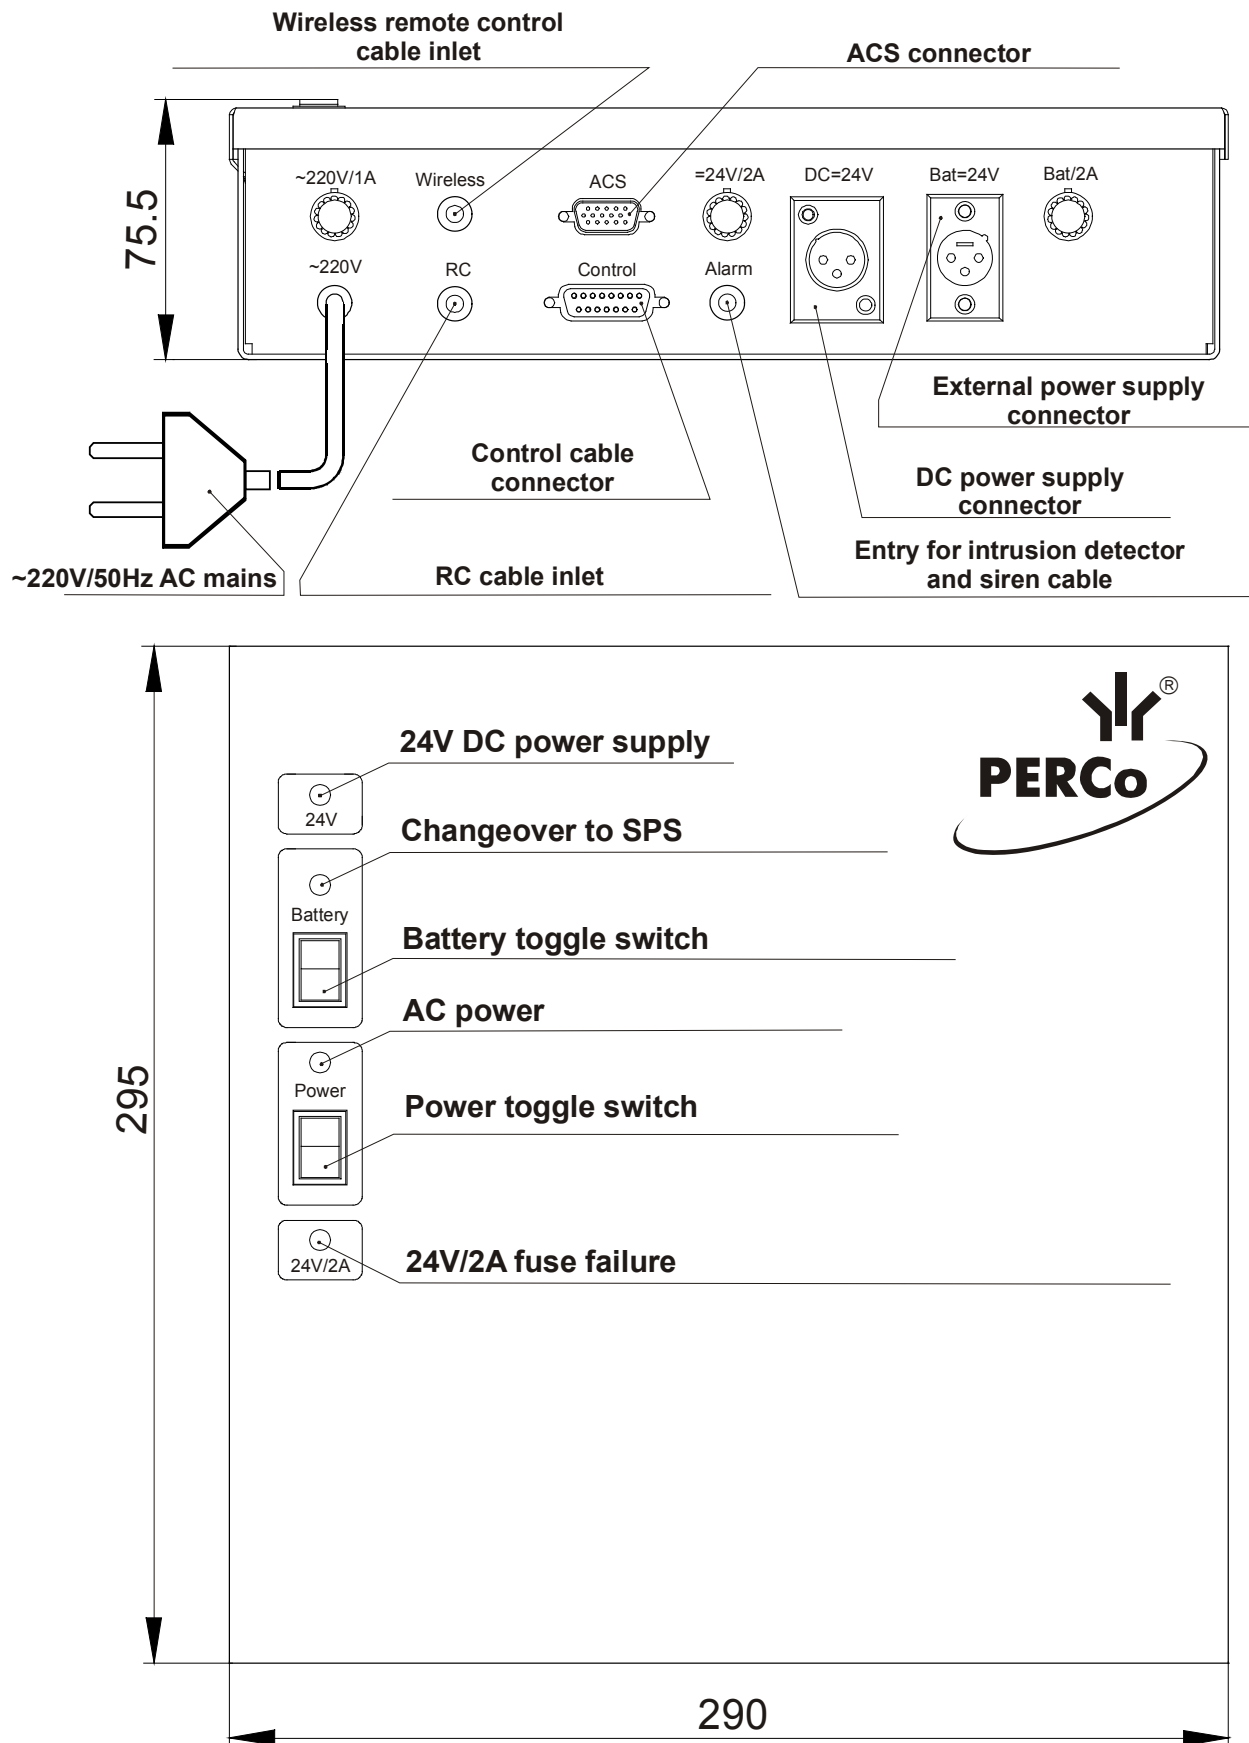

Fig. 3. Control unit
5.2.2. The remote control panel (RC) (9) is designed in the form of a small desktop device with a shockproof ABS plastic case and is intended for setting and indication of the operating modes when the turnstile is operated manually. The remote control panel (9) is connected to the processor module inside the control unit (8) with a multi-thread floppy tape (13) via a cable inlet on the lower panel of the control unit (Fig. 3 and Fig.8 in Appendix 1).
The CU front panel (Fig. 3) contains:
The ACS is connected to the CU «ACS» terminal with a cable (see Fig. 3).